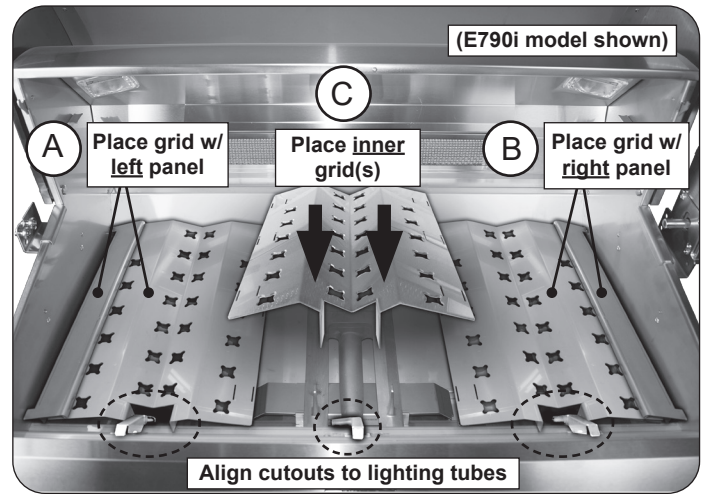

Fig. 31-1 Install flavor grids
1. Locate the flavor grid with the pre-attached **left panel** (see Fig. 31-1, A).
2. Carefully rest the grid onto the front and rear flavor grid rests while ensuring the flavor grid cutout clears the left-most lighting tube. See Fig. 31-1, A.
3. Locate the flavor grid with the pre-attached **right panel** and place it on the right side of the grill (see Fig. 31-1, B).
4. Take the inner grid(s) and install between the left and right flavor grids (see Fig. 31-1, C).